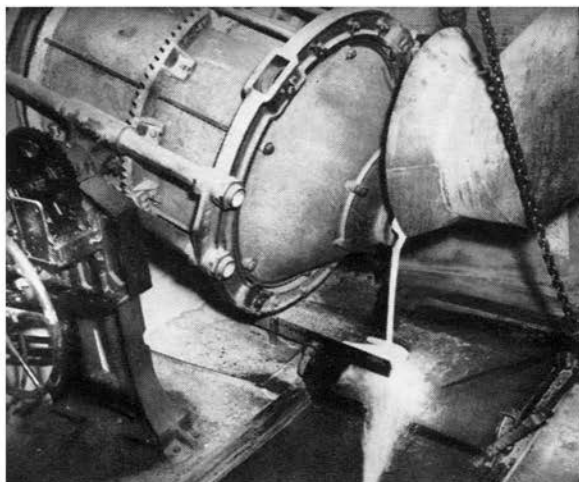

Figure 6-4. Vitrohm enamel being fritted. White hot, the vitreous enamel is poured into a cold bath to break up the mass into small particles.
5. *Coating* — The vitreous enamel is prepared by weighing out the proper ingredients and fritting the mixture, Figure 6-4. The frit is then ground, Figure 6-5, to a fine powder; the fineness of the powder is checked by sifting it through a bank of sieves, and the residue on each sieve is then rechecked. The enamel powder is then suspended in a liquid to obtain the proper con-